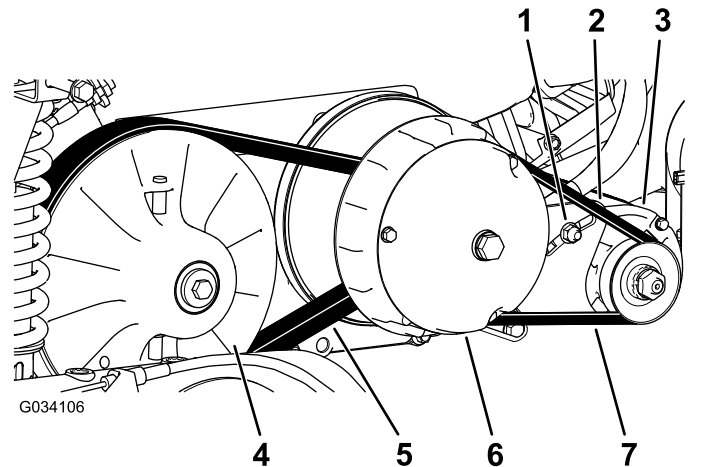

Figure 62
4. Rotate and inspect the belt (Figure 62) for signs of excessive wear or damage.
3. Rotate and route the belt over the secondary clutch (Figure 62).
4. Remove the belt from the primary clutch (Figure 62).
5. Align the new belt over the primary clutch (Figure 62).
6. Rotate and route the belt over the secondary clutch (Figure 62).
2. Loosen the pivot nut for the starter generator (Figure 62).
4. Apply downward pressure to the pry bar to rotate the starter down in the slot until the belt tension only allows 6 mm (1/4 inch) belt deflection with 44 N·m (10 ft-lb) of force (Figure 62).
5. Tighten the pivot nut hand tight, and remove the pry bar (Figure 62).